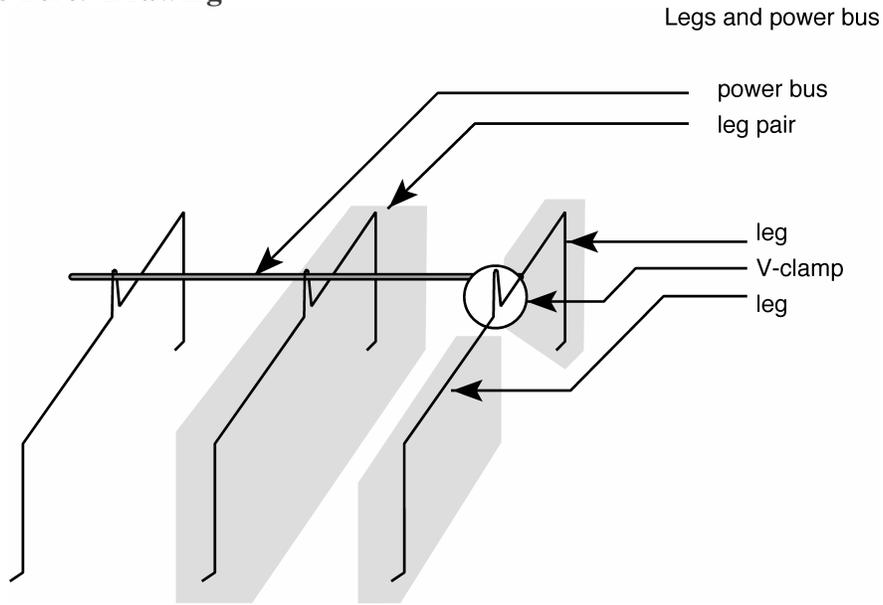

Figure 8: Legs and power bus
**Insert Figure 8 here. Drawing**